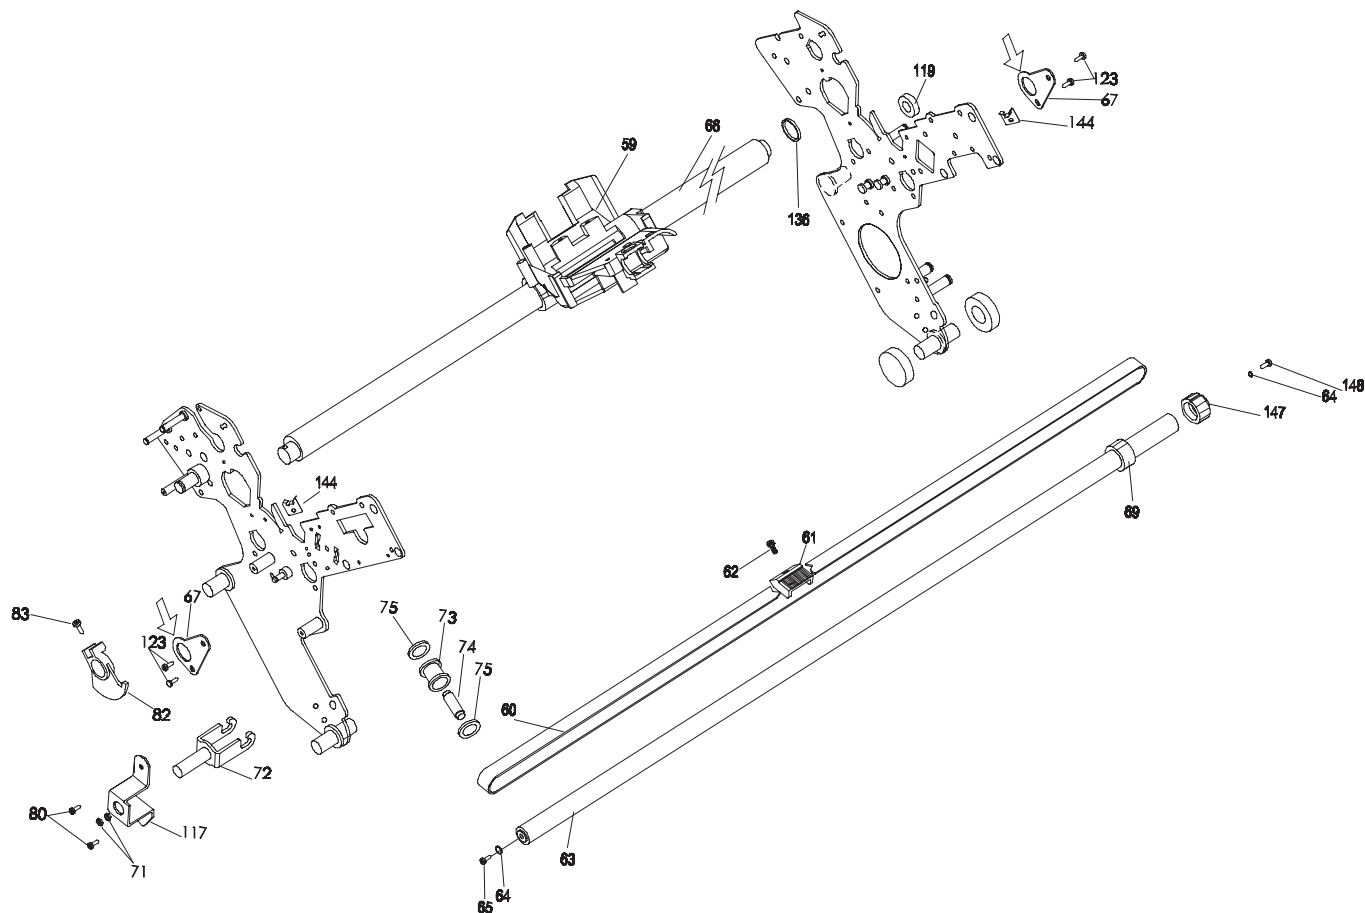
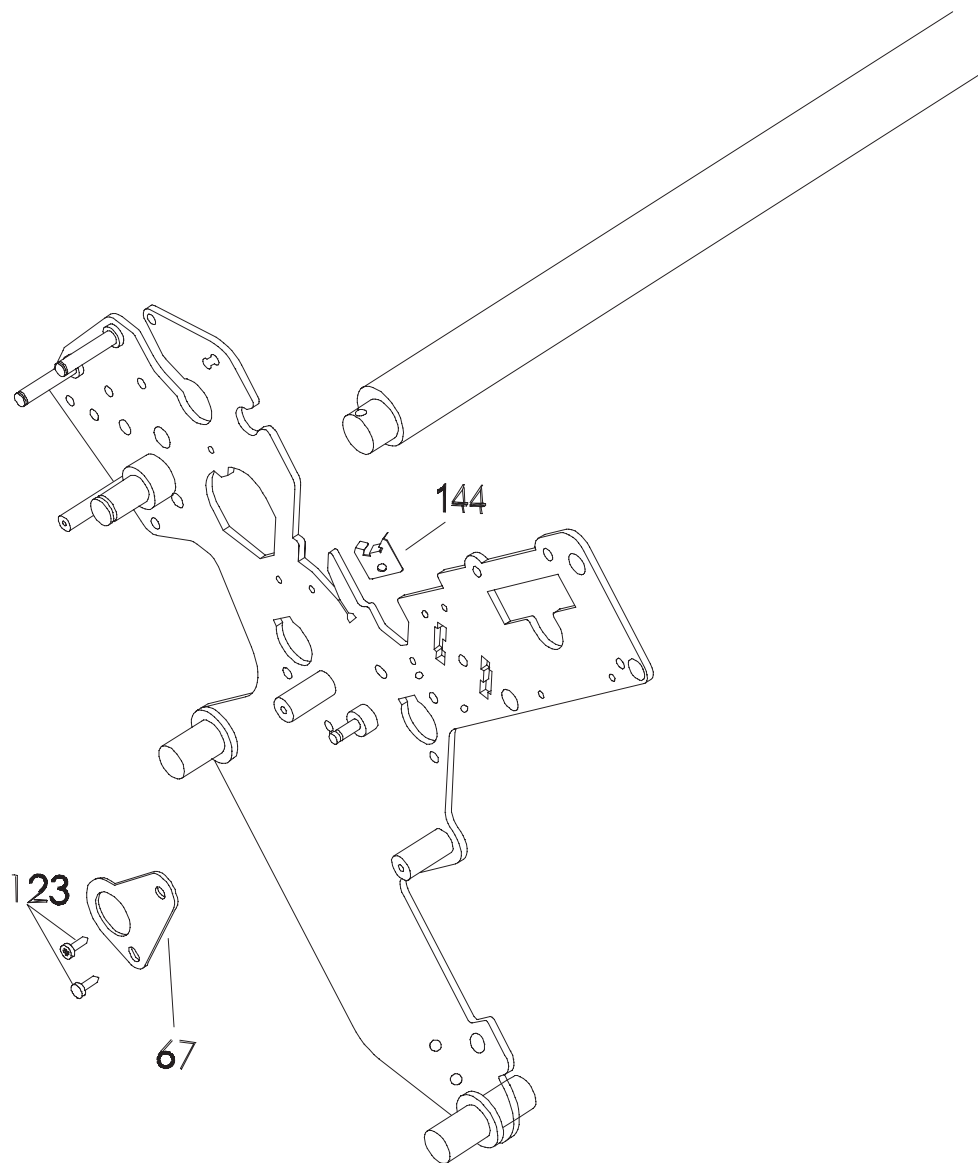

Figure 23. Carriage Assembly
Figure 24. Particular of little spring and main shaft
Be careful not to damage the little springs (item 144 of Figure 23 on page 75 and Figure 24 on page 76) located between the front bar and the frame, on each side.